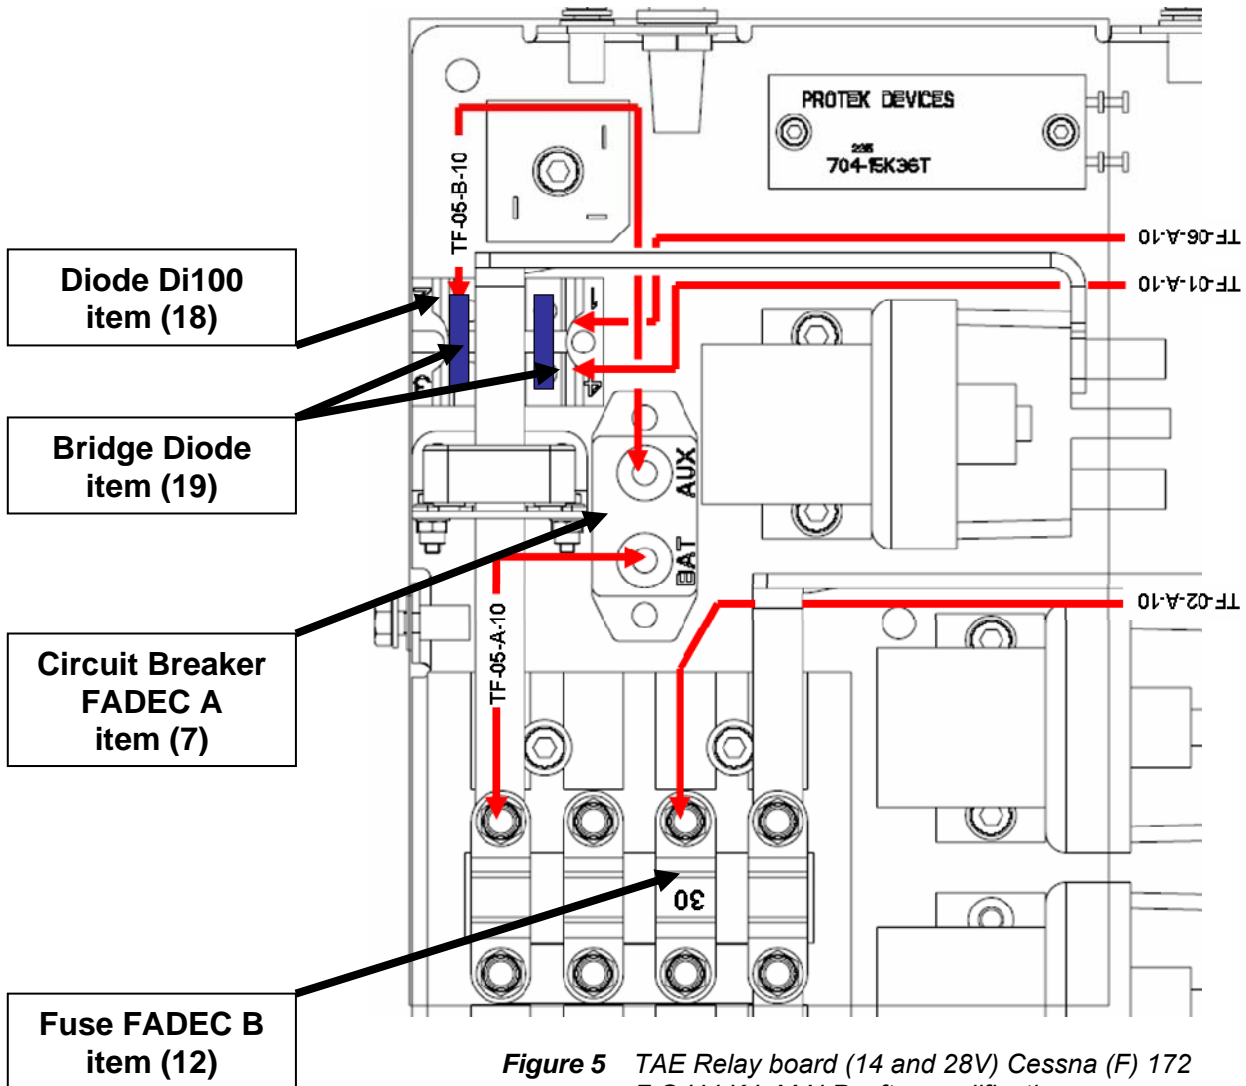

Figure 5 TAE Relay board (14 and 28V) Cessna (F) 172 F, G, H, I, K, L, M, N, P, after modification
6. Modification of TAE relay board for versions 14V and 28V Cessna (F)172 Model F,G,H,I,K,L,M,N,P (see figure 5)
- Remove fuse 50A FADEC from the fuse holder and change it with a 30A (12) fuse.